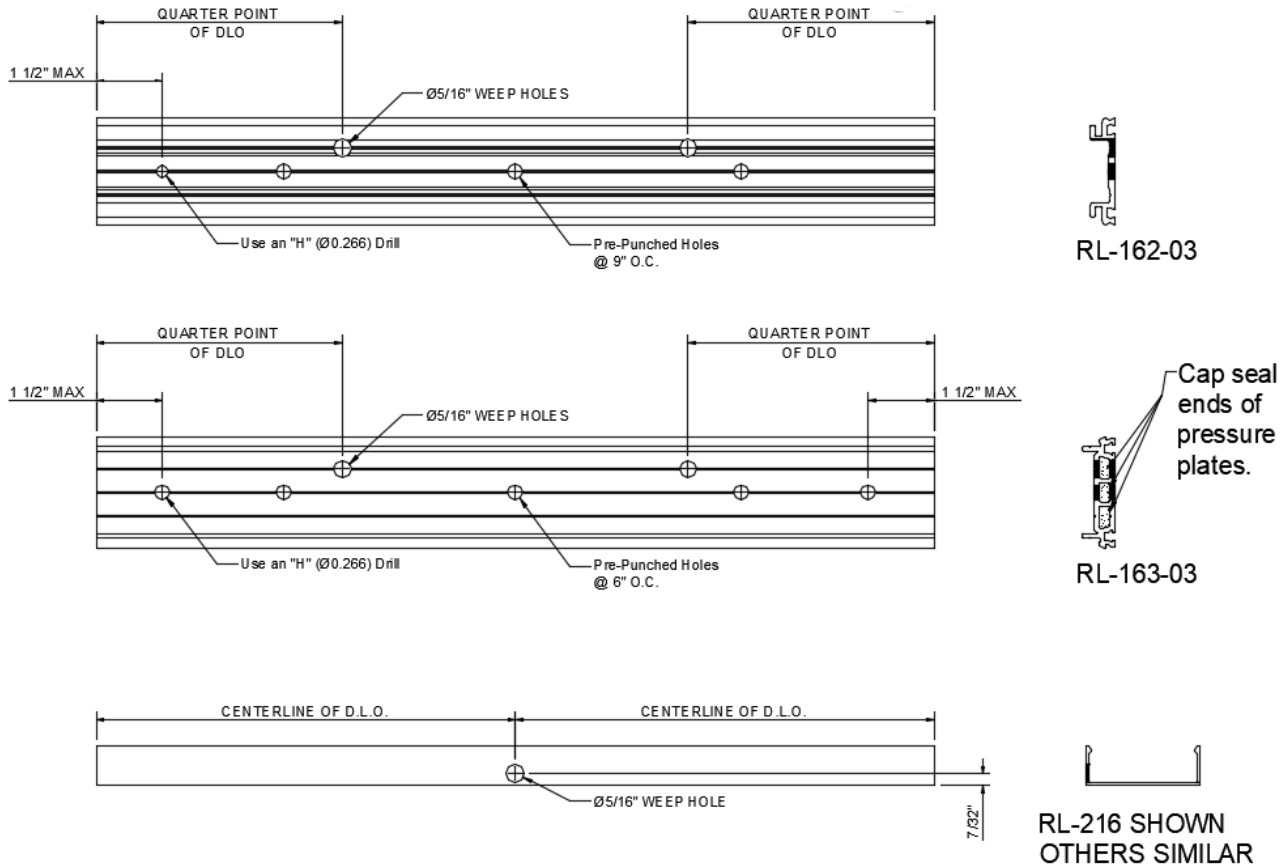

Figure 25: Pressure Plate and Cover Fabrication
- 8.2 Drill (1) 5/16" Ø weep hole at the bottom of each horizontal face cover at D.L.O. centerline. See *Figure 5* and *Figure 25*.
- 8.3 All pressure plates have factory-punched holes for fasteners at 9" on center on **RL-162-03** and 8" on center on **RL-163-03**. To ensure proper pressure on the glazing, 0.266" Ø holes may need to be drilled at the ends of each horizontal pressure plate as required. Locate at 1-1/2" maximum from the ends. See *Figure 25*.